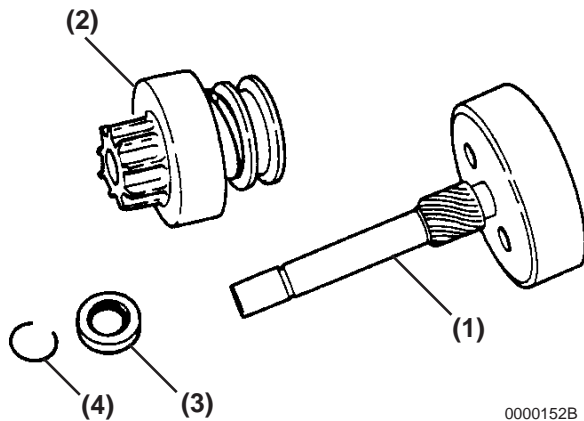

Figure 10-29
- Reinstall the pinion clutch assembly (**Figure 10-29, (2)**), return spring (if equipped), and pinion stop (**Figure 10-29, (3)**) onto the pinion shaft (**Figure 10-29, (1)**). Reinstall the retaining ring (**Figure 10-29, (4)**) in the groove in the pinion shaft. Slide the pinion stop over the retaining ring.